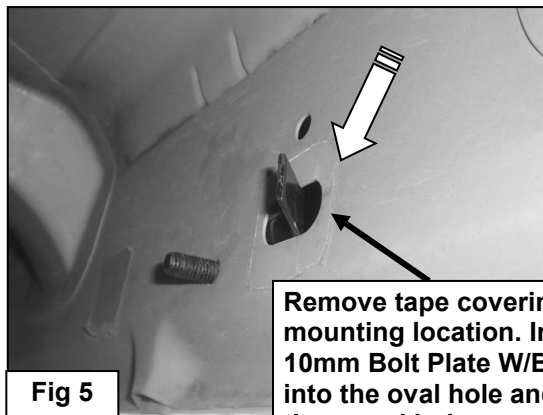

Fig 5
9. Move to the passenger side center location, Locate the holes in the side panel (remove sealing tape as necessary) for the Passenger Center Mounting Bracket, (typically one slot and two round holes). Insert one of the 10mm Bolt Plates w/ bend into the slotted hole and exit through the round hole, **(Figure 5)**. Thread (1) 10mm Plastic Retainer onto the threaded end of the Bolt Plate to prevent it from falling back into the body panel, **(Figure 6)**. **NOTE:** Some vehicles may have several holes in the side panel. To determine the correct mounting location, position the Passenger Center Mounting Bracket up and attach to the threaded insert **(Figure 7)**, Snug but do not tighten hardware at this time.